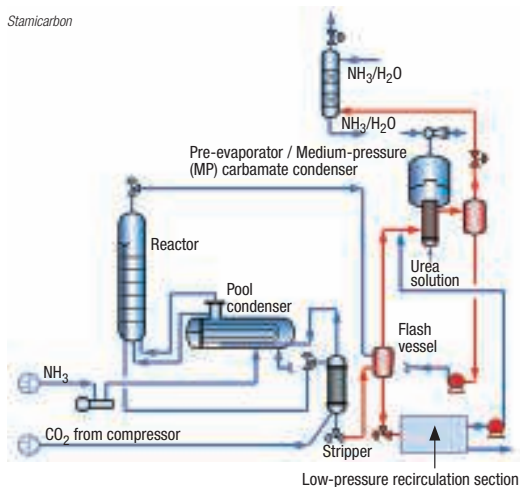

FIGURE 3. This urea process is said to have reduced energy consumption, and also lower investment costs due to a reduction in high-pressure equipment
Similar efforts are underway for urea production as well, such as Stamicarbon’s newly developed Launch Melt Flash Design with improved energy efficiency (Figure 3). With this design, the steam consumption in the urea plant is reduced by about 100 kg/ton of final product by installing a small in-line flashing step between the synthesis loop and the traditional low-pressure stage, explains Zwart. This concept has a better heat integration and reduces the investment cost of the high-pressure (HP) equipment, becoming smaller in size, and some of them dispensed with entirely, he says. Stamicarbon’s latest process scheme for the Launch Melt Low Opex design (Figure 4; online version at www.chemengonline.com) allows for steam consumption to be reduced down to around 550 kg/ton of final product.